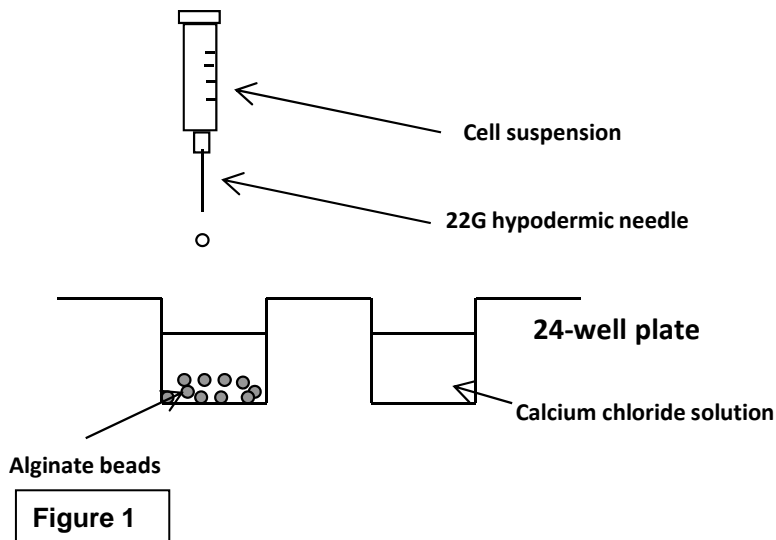

Figure 1
- (1) Dispense 2 mL calcium chloride solution to each well of the 24-well plate provided.
- (2) Harvest cells using enzymes such as trypsin, and prepare cell pellet (containing 1×10^6 cells) into a 15 mL tube.
- (3) Dispense 5 mL sodium alginate solution into the 15 mL tube and mix well with a pipette to ensure a homogeneous cell suspension (e.g., 2×10^5 cells/mL).
- (4) Attach the plastic flexible needle to a 5-mL syringe and aspirate the cell suspension into the syringe.
- (5) Remove the plastic flexible needle from the cell suspension syringe and attach a 22G needle instead.
- (6) Hold the cell suspension syringe in an upright position over the 24-well plate and add 10 drops of cell suspension into each well containing calcium chloride solution at about one drop per second (1 drop is ca. 10 μ l). Position the tip of the needle 3-4 cm above the liquid surface of calcium chloride and drop the cell suspension (**Figure 1**). If the tip is positioned too close to the liquid surface, alginate will form a big aggregate of gel.
- (7) When finished, cover the plate with a lid, and leave it at room temperature for 10 min.
- (8) Check if the alginate beads have coagulated (**Image 1**). The beads should appear completely white by visual observation; the center of the bead should also be white. We recommend that the beads be placed against a black background for better visualization.
- (9) Remove the calcium chloride solution from the well using a manual pipette. Tilt the pipette slightly, and gently remove the solution while allowing the tip to touch the bottom of the well, so that the solution can remove through the tip without aspirating the beads.
- (10) Dispense 2 mL saline solution to each well, and let stand at room temperature for 15 min.
- (11) Remove the saline solution from each well in a similar manner of (9). Dispense 2 mL medium to each well, and let stand at room temperature for 15 min.
- (12) Remove the medium from each well in a similar manner of (9). Dispense an additional 1–2 mL medium, add test substances into the culture medium and let start the culture.
- (13) Change the medium every few days, if needed, until a good formation of colonies is achieved in each well.